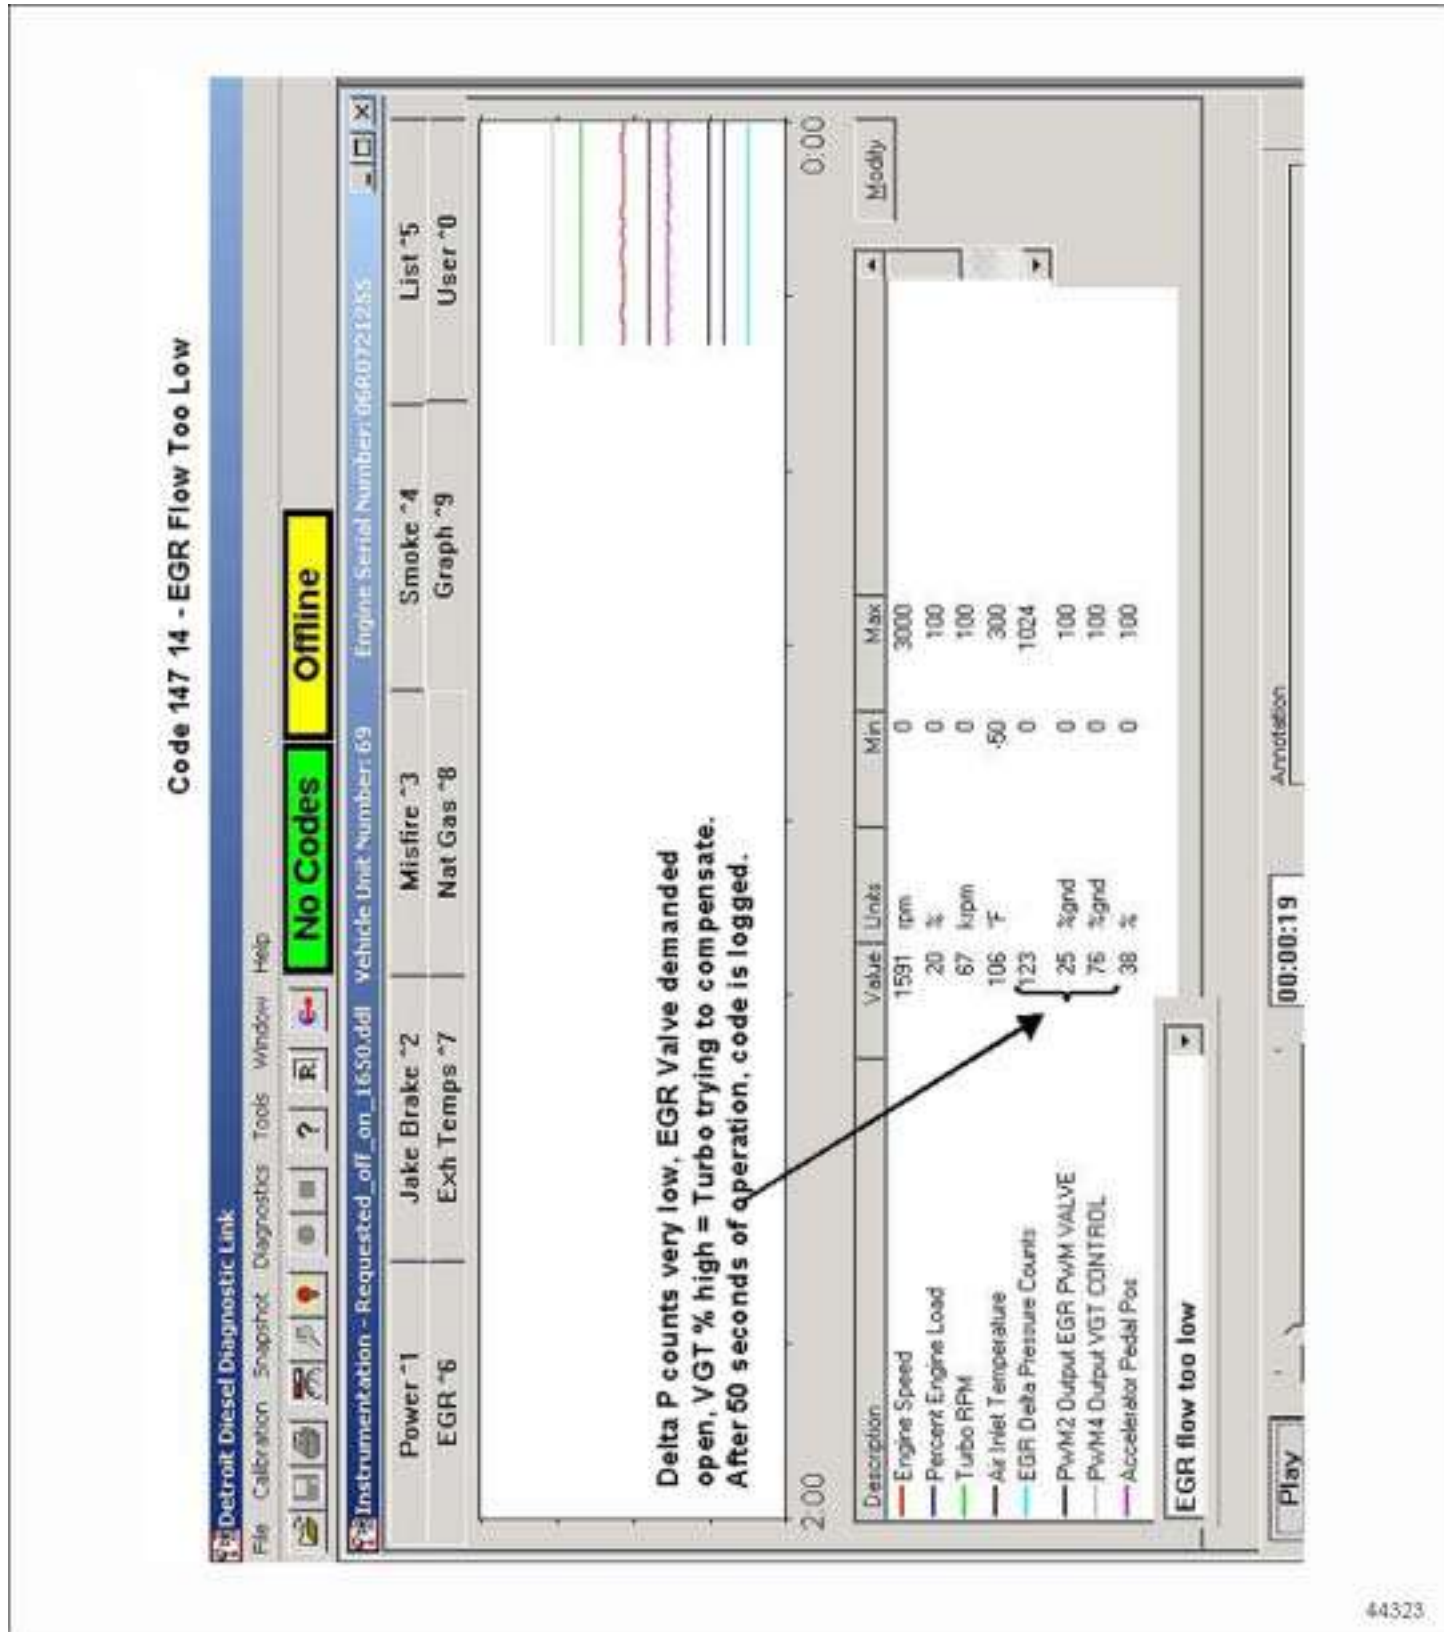

Figure 7-6 Code 147 14 — EGR Flow Too Low
- ☐ 147 14, EGR Flow too Low. See Figure 7-6.